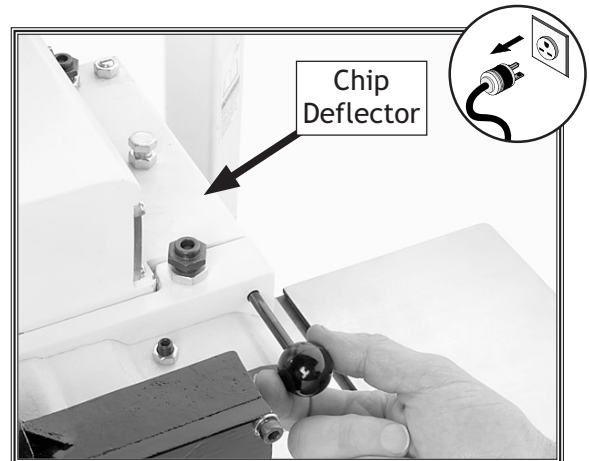

Figure 23. Removing the chip deflector.
2. Pull the pin shown in **Figure 23**, and remove the chip deflector.